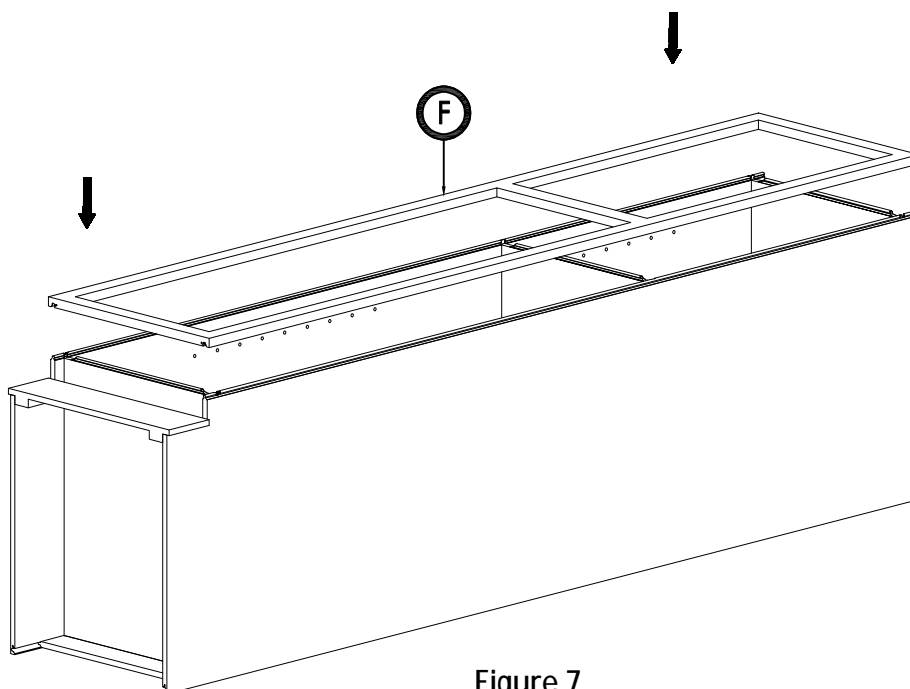

Figure 7
8. Assemble 7 hinges into three doors by screwdriver and 14 screw 7/15" (Figure 7)